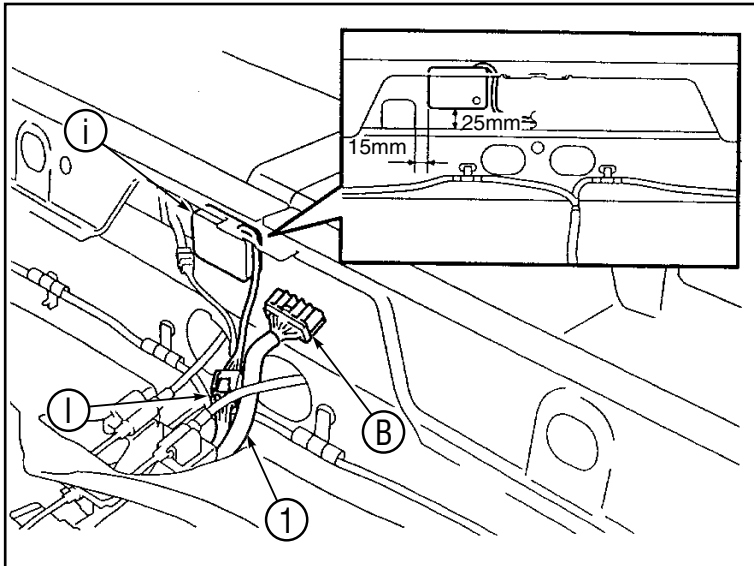

Figure 32
Attach the radar sensor ① on the body floor surface as shown in Fig. 32.